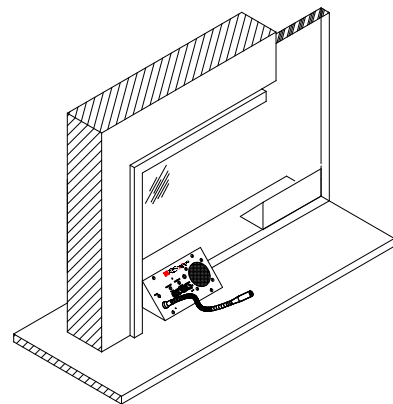

Fig. 1
1. Mount the TTU unit using the method shown in figure 1.